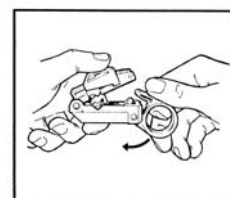

Figure 17
- A.** Open the tool by rotating locking latch downwards (Fig. 17).